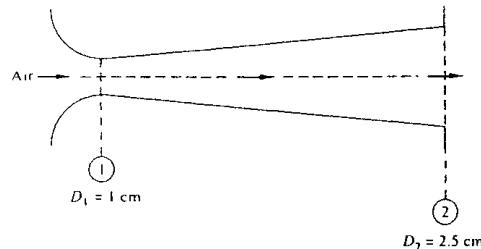

Fig. P3.22
**3.22** The converging-diverging nozzle shown in Fig. P3.22 expands and accelerates dry air to supersonic speeds at the exit, where  $p_2 = 8 \text{ kPa}$  and  $T_2 = 240 \text{ K}$ . At the throat,  $p_1 = 284 \text{ kPa}$ ,  $T_1 = 665 \text{ K}$ , and  $V_1 = 517 \text{ m/s}$ . For steady compressible flow of an ideal gas, estimate (a) the mass flow in kg/h, (b) the velocity  $V_2$ , and (c) the Mach number  $\text{Ma}_2$ .